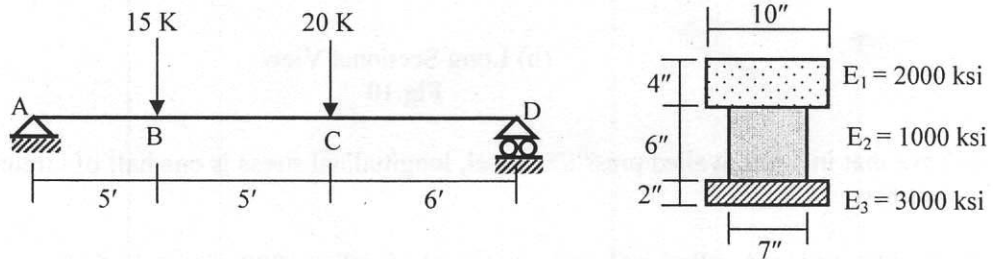

Fig. 8
8. For a simply supported beam loaded as shown below in Fig 8, draw the flexural stress and strain diagrams over the composite cross-sectional area at section B.